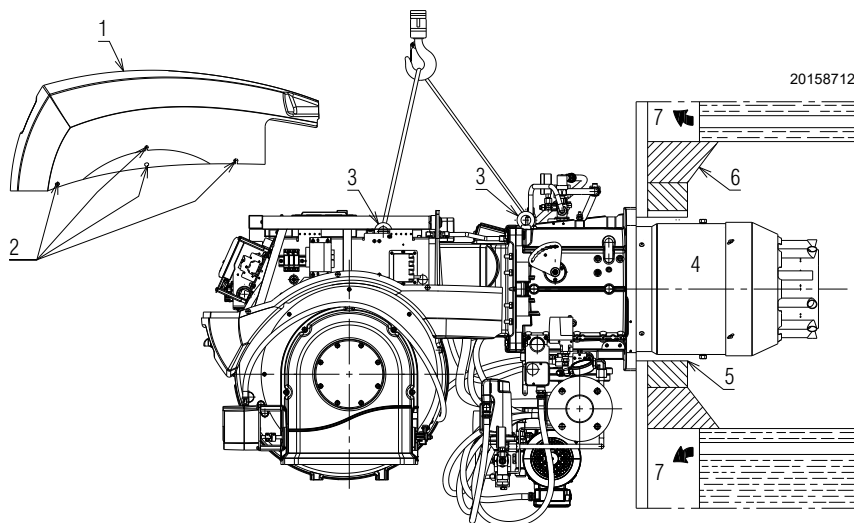

Fig. 14
For boilers with front flue passes 7)(Fig. 14) or flame inversion chambers, protective fettling in refractory material 5) must be inserted between the boiler fettling 6) and the blast tube 4).
For boilers having a water-cooled front the refractory fettling 5)-6)(Fig. 14) is not required unless it is expressly requested by the boiler manufacturer.
Prepare a suitable lifting system using the rings 3) after having removed the casing 1) unscrewing screws 2)(Fig. 14).
- Fit the entire burner onto the boiler hole, prepared previously, as in Fig. 14, and fasten with the screws supplied.